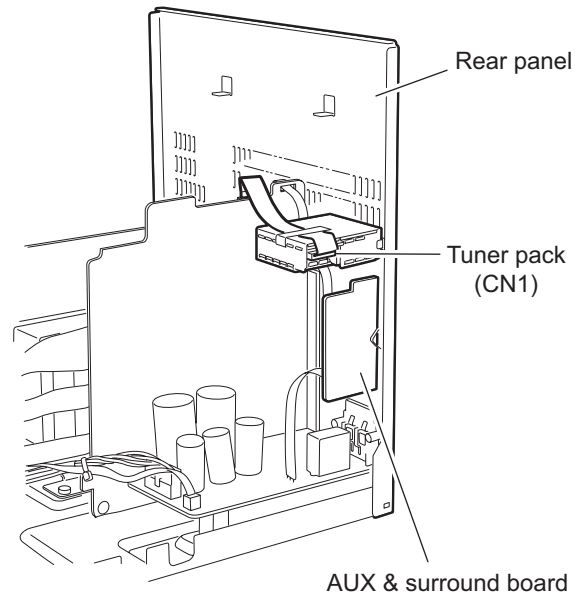

Fig.17
3.1.7 Removing the tuner pack assembly (See Fig.17~18)